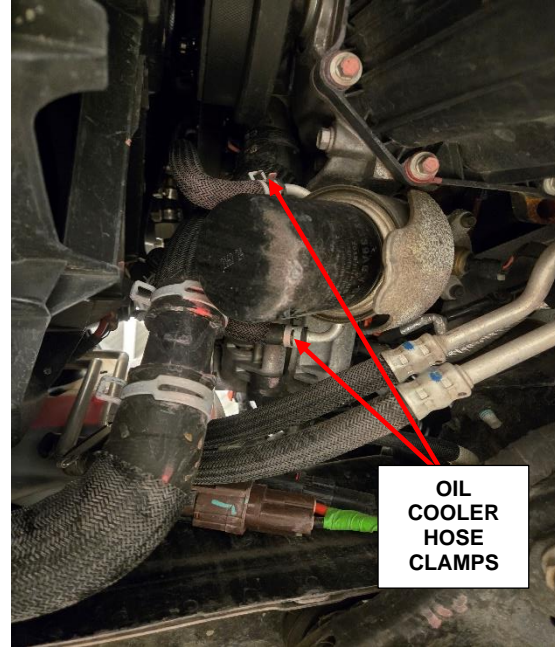

Figure 10 – Engine Oil Cooler
15. Remove the oil cooler clamps, then remove the hoses (Figure 10).